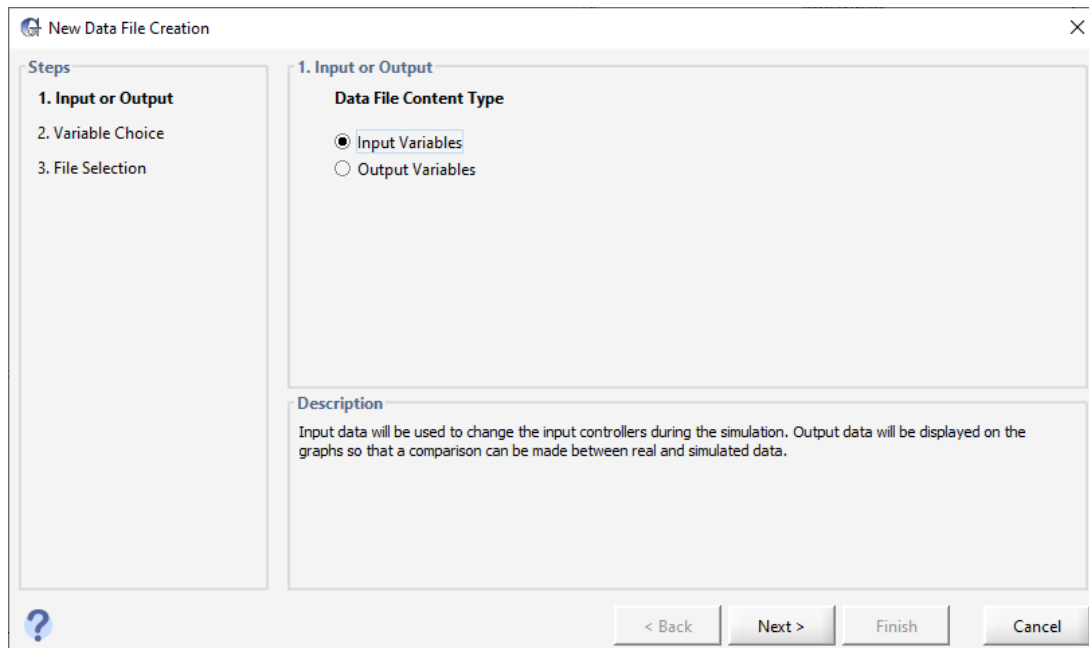

Figure 6-16 – Using the New Data File Creation Tool
- (1) **Open the Data File Menu.** On the main toolbar press the Data File button to open the Data Files window.
- (2) **Create a new Data File.** Pressing the New button on the Data Files window will open the New Data File Creation window. This will allow you to create a new Excel template file to be applied to the current scenario (see **Using Scenarios**) The New Data File Creation Window can be seen in **Figure 6-16**.
- (3) **Choose the Type of Data File.** There are two types of data file variable types available: